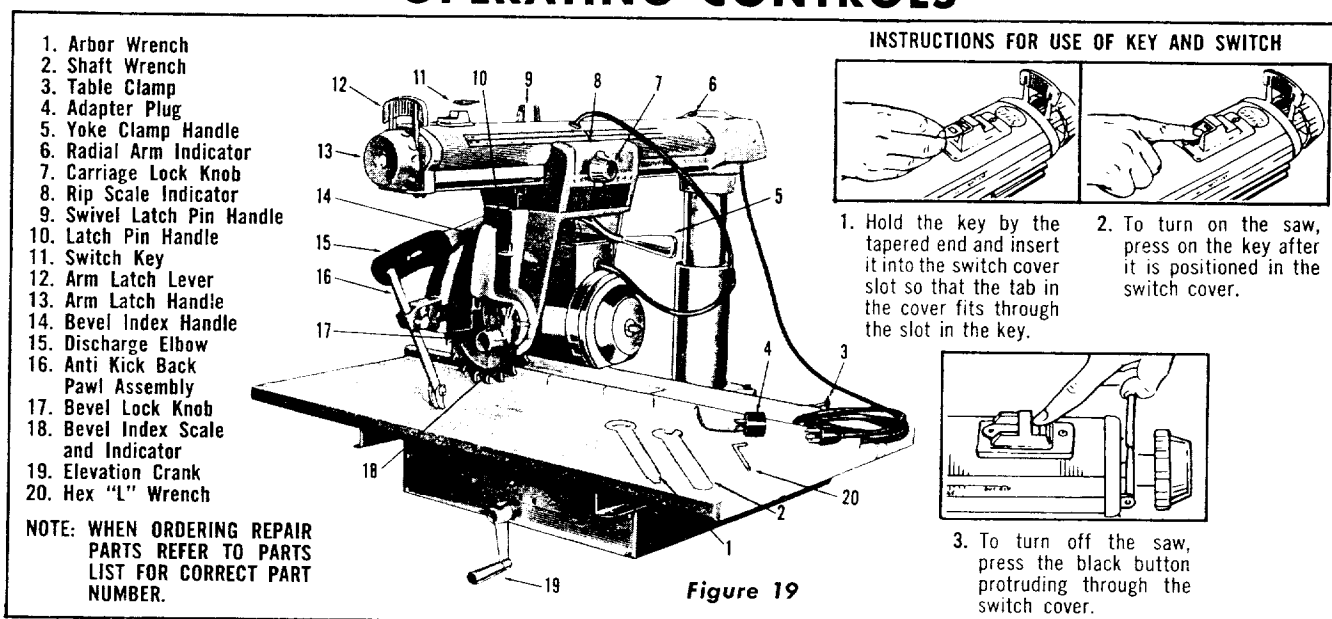

Figure 19
RAISING AND LOWERING THE RADIAL ARM is accomplished by the elevation crank (Item 19, figure 19). One complete turn of this handle will raise or lower the radial arm $\frac{1}{8}$ ".
LOCKING THE CARRIAGE TO THE RADIAL ARM is accomplished by the carriage lock knob (Item 7, figure 19). Turn the knob clockwise to lock; counterclockwise to unlock.
ANGULAR MOVEMENT AND LOCKING OF THE RADIAL ARM are controlled by the arm latch lever (Item 12, figure 19) and the arm latch handle (Item 13, figure 19). The radial arm can be rotated 360° and locked in any position. The arm is unlocked from any position by a slight counterclockwise rotation of the arm latch handle and is locked in any position by rotating the arm latch handle clockwise until tight. The radial arm has positive stops at 0° and 45° left and right, and is released from these index positions by unlocking the arm latch handle and pulling out the arm latch lever (Item 12, figure 19).
2. Before moving the radial arm to the desired index position, turn the arm latch handle (Item 13, figure 19) just $\frac{1}{4}$ turn counterclockwise from the locked position.
MOVEMENT AND POSITION OF THE MOTOR IN THE YOKE are controlled by the latch pin handle (Item 10, figure 19) and bevel lock knob (Item 17, figure 19). The bevel scale indicates the angular position of the motor with respect to the horizontal from 0° to 90° in either vertical position. The latch pin handle automatically indexes the motor at 0° ,
MOVEMENT AND POSITION OF THE YOKE are controlled by the swivel latch pin knob (Item 9, figure 19) and the yoke clamp handle (Item 5, figure 19). The swivel latch pin automatically indexes the yoke at each 90° position and two 45° positions. Lift to release. The yoke clamp handle locks the yoke to the carriage in any position. Pull to release. Push to tighten. When "In Ripping" it may be desirable to have more free table in front of the saw blade than is obtainable when the radial arm is at the 0° position. With the blade in the normal cross-cut position index the radial arm to 45° left and lock it. Then loosen the yoke clamp handle and index the yoke 45° clockwise. Reclamp the yoke clamp handle. The added free table space is now to the right of the blade and ripping should be done from the right side of the table. The reverse is also true for "Out Ripping" by indexing the radial arm 45° right and indexing the yoke 45° counterclockwise. The added table space is now to the left of the blade and ripping should be done from the left side of the table.
Move the motor along the radial arm until the blade, when spun by hand, just touches the front face of the fence (See Figure 20). The indicator (Item 8, figure 19) on the "In-Rip" scale should now read 0. If not, shift the position of the indicator to read 0.